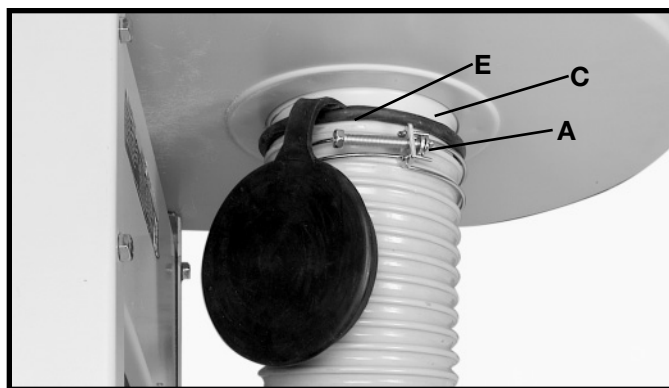
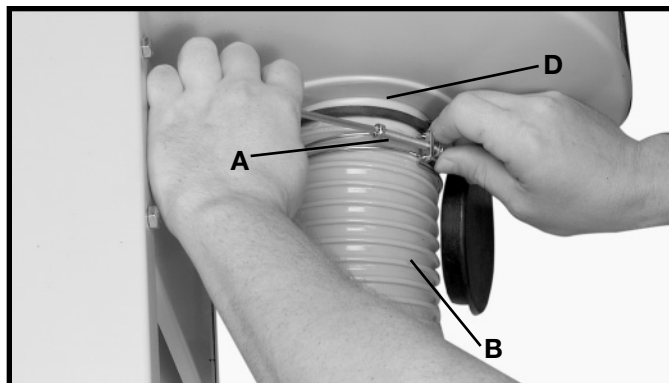

Fig. 17
Fig. 18
The dust collector is supplied with a 4" flexible dust intake hose. Place the intake cap holder (E) on the dust collector as shown in Fig. 17. **NOTE: DO NOT COVER THE INTAKE PORT WITH THE INTAKE CAP WHEN ATTACHING THE HOSE TO THE INTAKE PORT.**
To assemble the dust collection hose to the motor and blower assembly, loosely attach hose clamp (A) Fig. 17, around one end of flexible hose (B) and assemble the hose to dust intake port (C). Tighten hose clamp (A) Fig. 18. Assemble the remaining clamp to the other end of the flexible hose and to the woodworking machine. **IMPORTANT:** Do not operate the dust collector without the flexible hose assembled to the dust intake port.